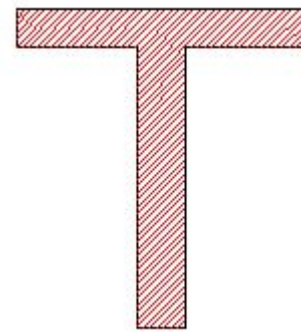

Figure 3-5 Degrees
**Angle:** Hatch Angle stands for the angles between hatch lines and X axis, and Figure 3-5 is the feature when the angle is 45 degrees.